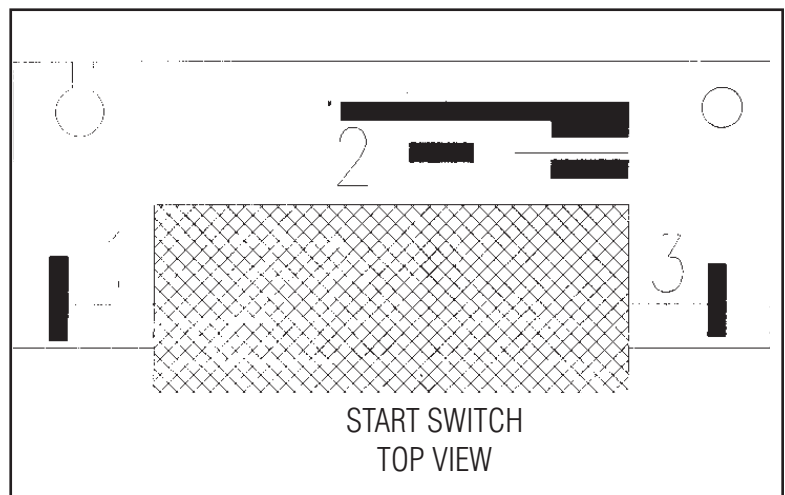

Figure X-5 LM start switch - Franklin motor
- C) Check resistance between pins 1 and 2, verify open circuit. (Fig X-5)